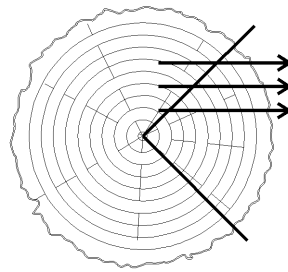
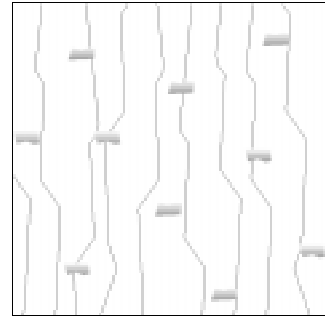

Fig. 5 Quarter sawing or slicing
Fig. 6 Quarter sliced veneer
**Quarter sawn** veneers are one of the two premium class veneers as veneer leaves tend to be small and the loss of log considerable (Fig. 5 and Fig. 6). By cutting the log into quarters and then slicing, a narrow striped grain pattern is revealed, and the cross-growth structure of the